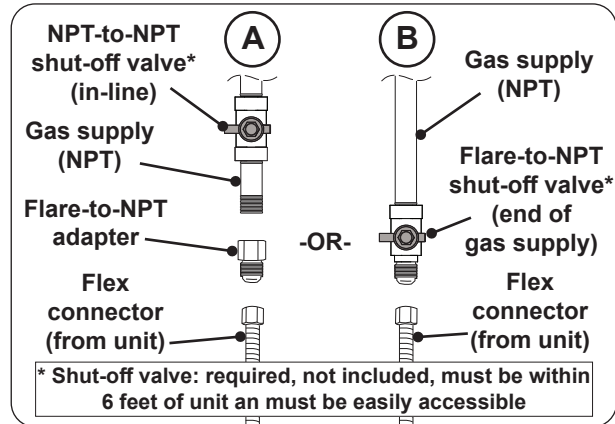

Fig. 16-1 Connecting to a gas line
- Install a flare-to-NPT adapter (not included) to the gas supply (NPT) using a pipe joint compound resistant to all gasses (see Fig. 16-1, A). Tighten securely.
- Connect the flex connector to the adapter (see Fig. 16-1, A). Tighten securely.
- Connect the flex connector to the shut-off valve (flare) (see Fig. 16-1, B). Tighten securely.